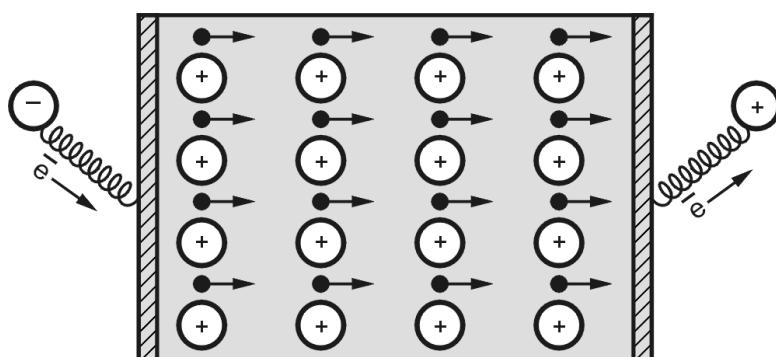

Fig. 4.13
b) Structure of graphite:**Fig. 4.13**